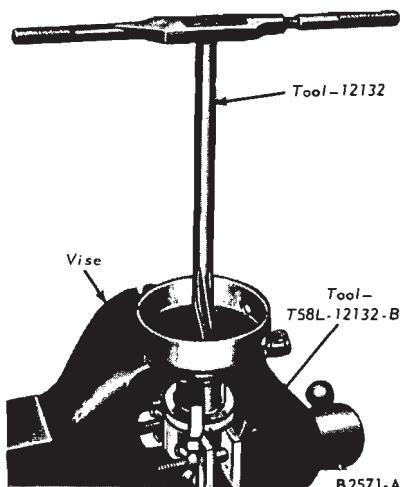

FIG. 18—Burnishing Bushing—Typical
2. Burnish the bushing to the proper size (Fig. 18).